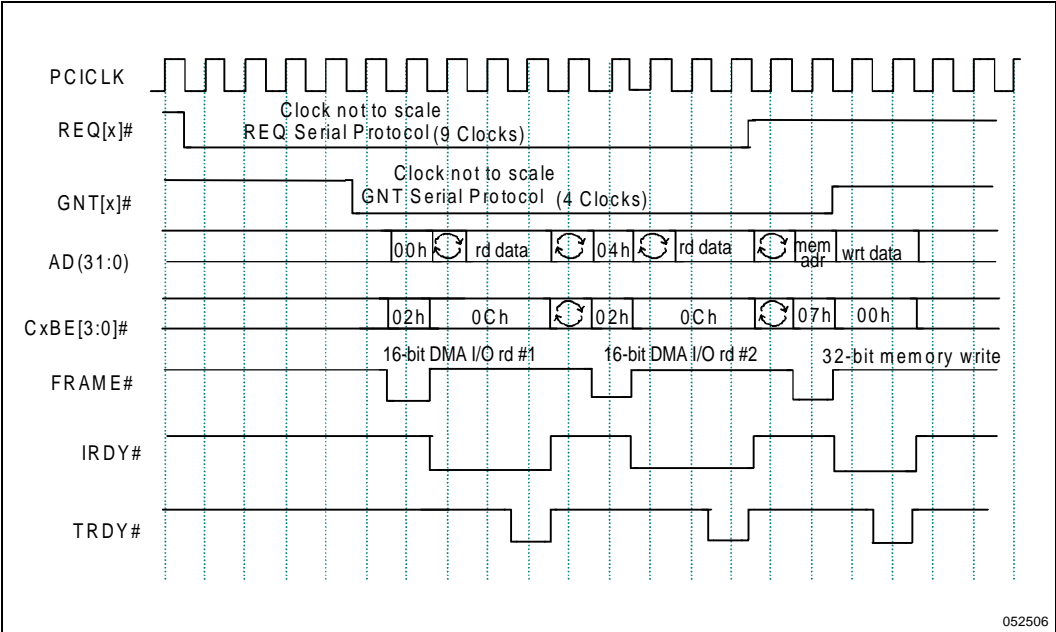

Figure 6. Terminal Count of DMA Write (16-Bit PCI I/O to PCI Memory)
The terminal count protocol for ending demand mode transfers (larger than a single transfer) is shown in Figure 6 for a write transfer from a 16-bit PCI I/O to PCI memory. When a DMA device initiates a multi-byte transfer, the DMA Controller passes a Terminal Count (TC) indication that the device is making its last transfer. The TC indication, that all requesting devices must recognize, is an I/O cycle (read or write, depending on whether the I/O portion was a load or store) by the DMA controller to address 04h. When the DMA I/O device or expansion agent detects a TC, it negates its REQ#. The MPIIX recognizes the removal of the request for service and removes its GNTx#, which cascades back through the PCI DMA agent to the initiating device.